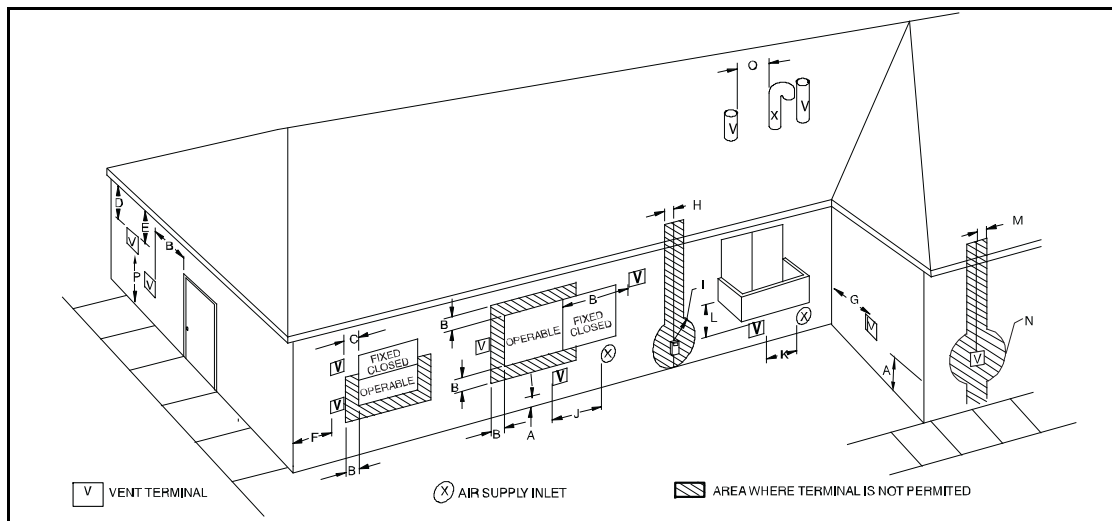
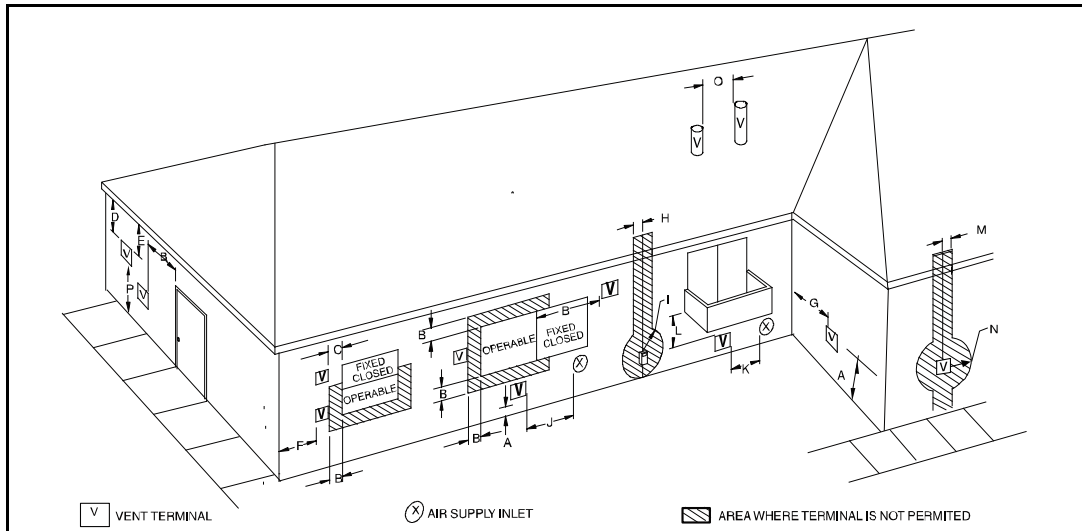
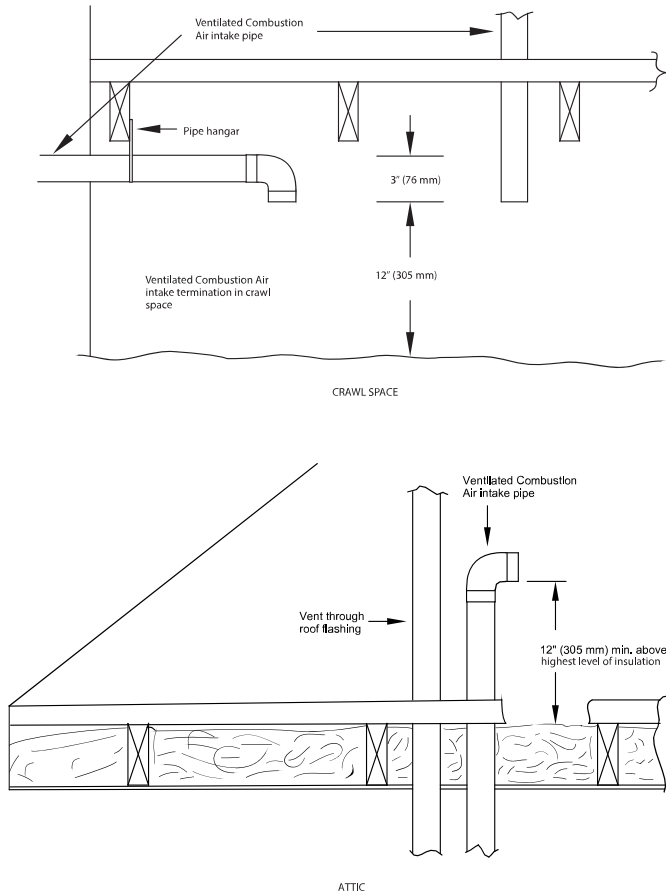

Fig. 46 – Direct Vent Termination Clearance
Fig. 47 – Ventilated Combustion Air and Non-Direct Vent Termination Clearance
Fig. 50 – Vent Terminations for Ventilated Combustion Air
In a direct-vent (2-pipe) system, all air for combustion is taken directly from outdoor atmosphere, and all flue products are discharged to outdoor atmosphere. Combustion-air and vent pipes must terminate together in the same atmospheric pressure zone, either through the roof (preferred) or a sidewall. For references to clearances required by National code authorities, see Fig. 46.
In a ventilated combustion air option, the vent terminates and discharges the flue products directly to the outdoors similar to a direct vent system. References to clearances required by National code authorities, see Fig. 47.
In a non direct-vent (1-pipe) system, all air for combustion is taken from the area adjacent to furnace, and all flue products are discharged to outdoor atmosphere. Air for combustion must be supplied as described in (AIR FOR COMBUSTION AND VENTILATION on p8). Do not use an abandoned chimney to supply outside air to the furnace. References to vent clearances required by National code authorities, see Fig. 47.
For vent termination clearance, references to National codes for Direct Vent/2-Pipe system (see Fig. 46) and for Ventilated Combustion
Air/Non-direct Vent/1-Pipe system, see Fig. 47. For exterior termination arrangements, for Direct Vent/2-Pipe system (see Fig. 43) and for Ventilated Combustion Air/Non-Direct/1-Pipe system, see Fig. 44. Contact Local code authorities for other requirements to and/or exemptions from the National codes shown in the figures.
1. Comply with all clearance requirements stated (see Fig. 46 or Fig. 47) per application.
Direct vent (2-pipe) vent and combustion air pipes must terminate outside the structure. For references to vent clearances required by National code authorities, see Fig. 46. Allowable vent and combustion air terminations, see Fig. 43.
The vent pipe for a Ventilated Combustion Air System must terminate outdoors. For references to vent clearances required by National code authorities, see Fig. 47. Allowable vent terminations, see Fig. 44. The combustion air pipe terminates in a well-ventilated attic or crawl space. Follow the clearances, see Fig. 50.
The vent pipe for a Non Direct Vent (1-pipe) system must terminate outdoors. References to vent clearances required by National Code authorities, see Fig. 47. Allowable vent terminations, see Fig. 44.